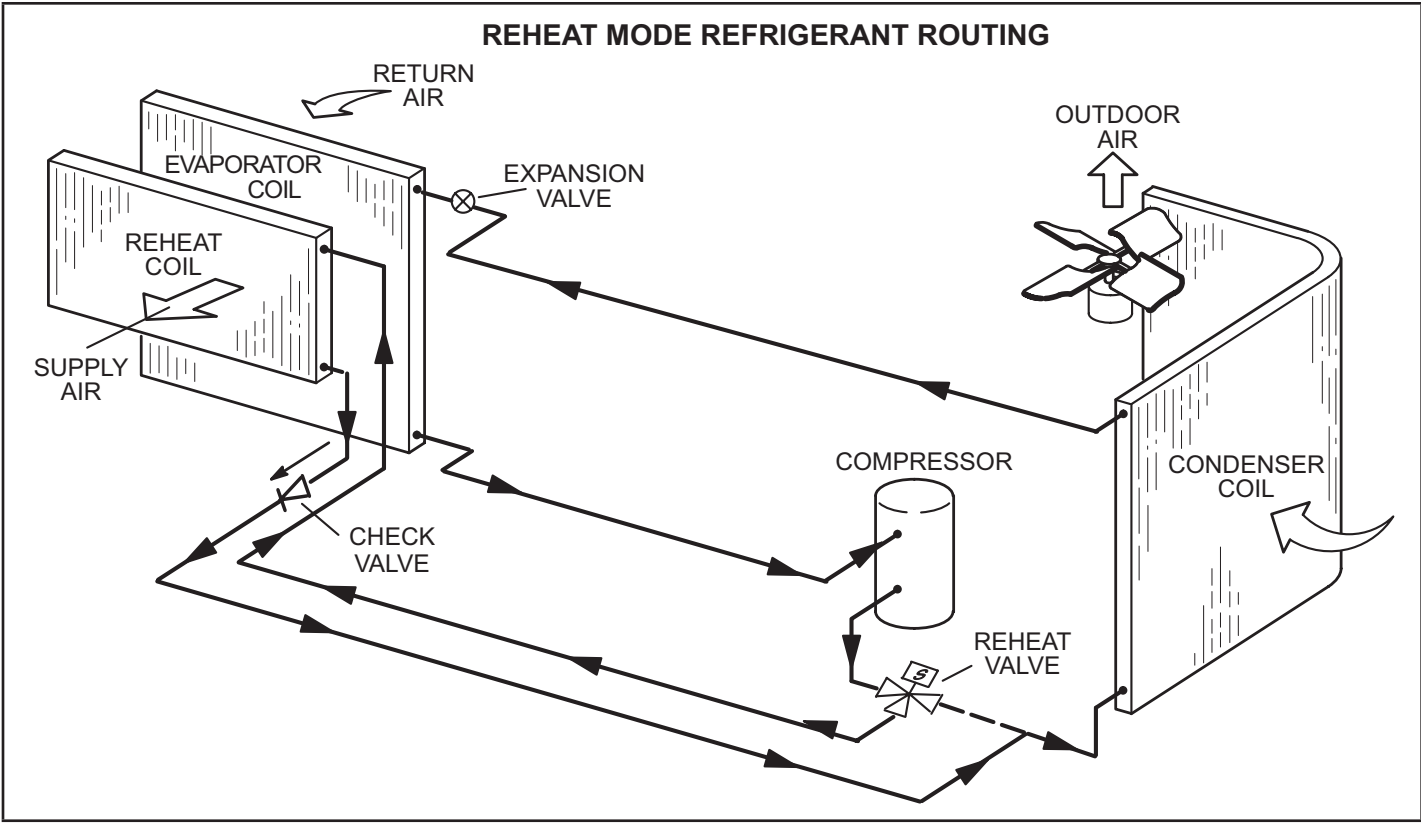
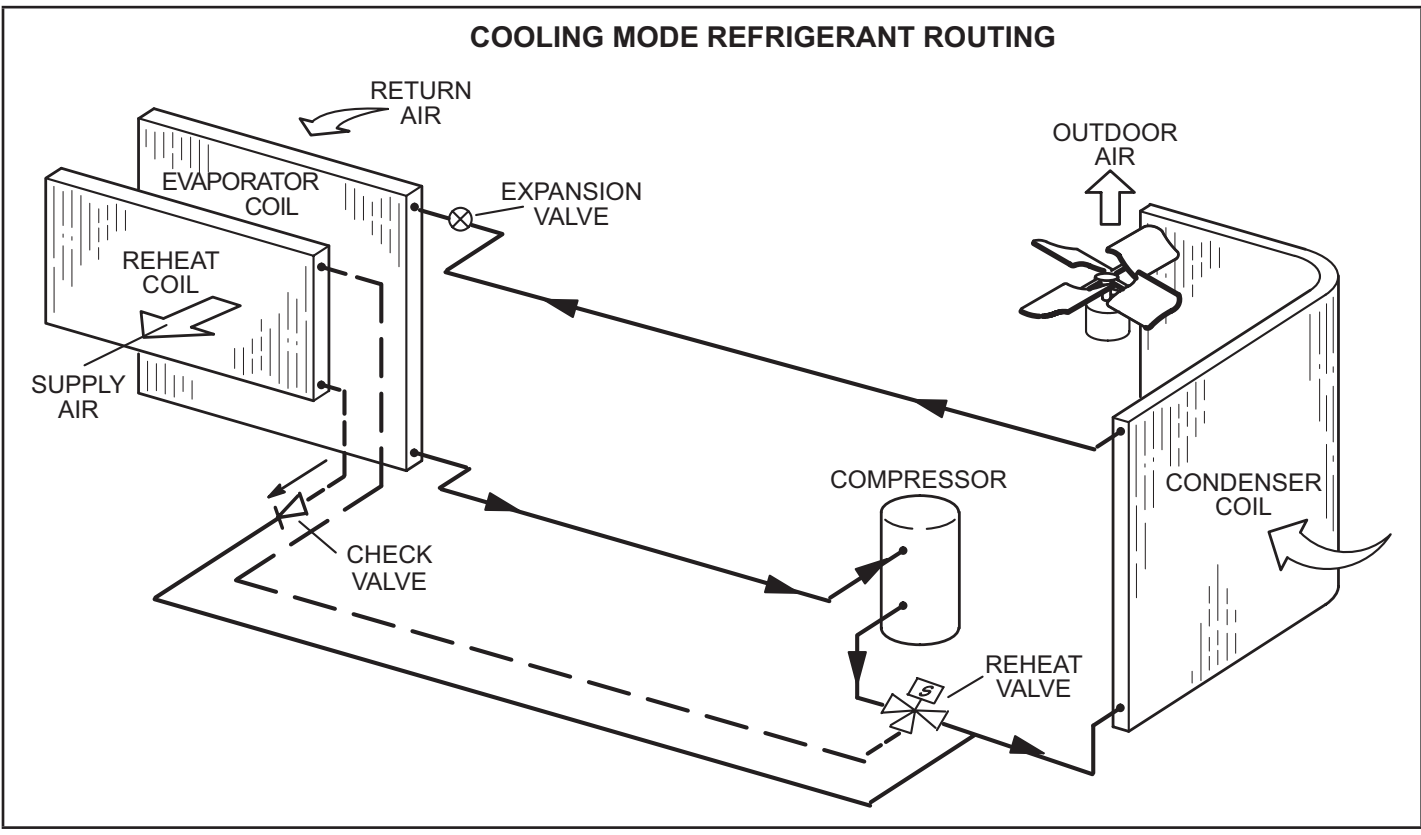

FIGURE 37
FIGURE 38
Hot gas reheat units provide a dehumidifying mode of operation. These units contain a reheat coil adjacent to and downstream of the evaporator coil. Reheat coil solenoid valve, L14, routes hot discharge gas from the compressor to the reheat coil. Return air pulled across the evaporator coil is cooled and dehumidified; the reheat coil adds heat to supply air. See FIGURE 37 for reheat refrigerant routing and FIGURE 38 for standard cooling refrigerant routing.
- 4 - Remove and retain screws securing combustion air inducer to flue box. Remove vent connector. See FIGURE 38.